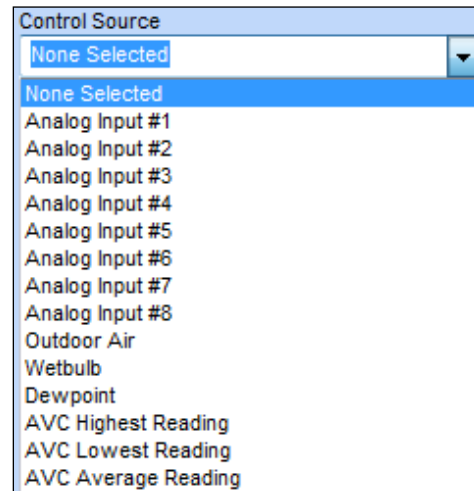

Figure 37: Control Source Field
- **Binary Inputs #1- 8 (Not shown in Figure 37)**
- **Analog Outputs #1- 4 (Not shown in Figure 37)**
If you are using an AAON Standard Flush Mount Wall Sensor which has the optional slide offset switch, and you want that slide switch to adjust the Control Source Setpoints up or down, be sure to select the analog input the slide offset was connected to (Control Source field, Figure 37, page 23). See Figure 40 below.